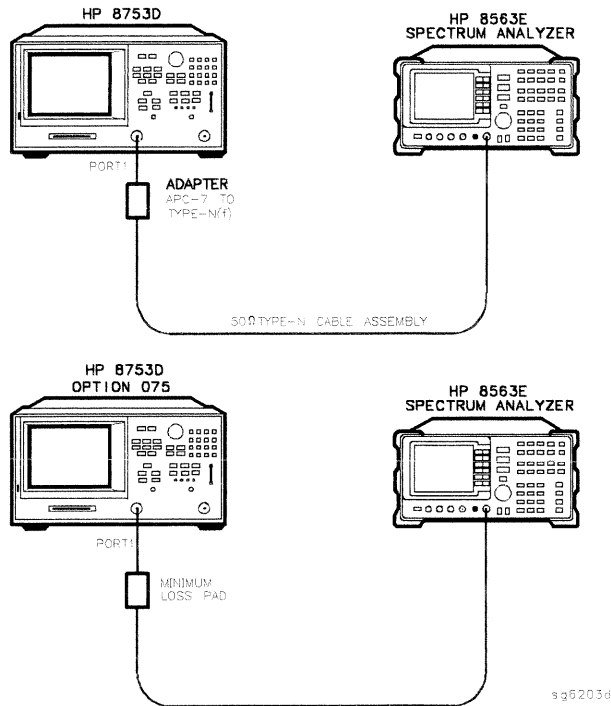

Figure 3-19. Frequency Accuracy Adjustment Setup
2. Connect the equipment as shown in Figure 3-19.